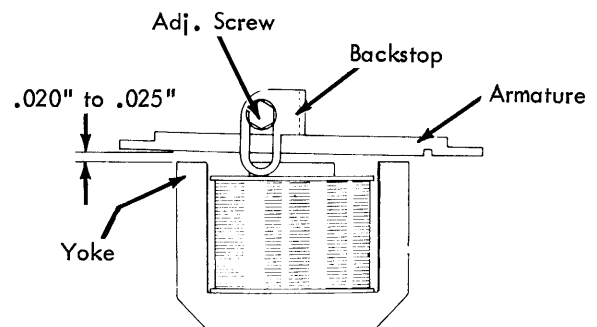

FIGURE 169. Armature Backstop
3. Armature Backstop (Fig. 169) - Position (armatures at rest) so that the armatures clear their yokes by .020" to .025".